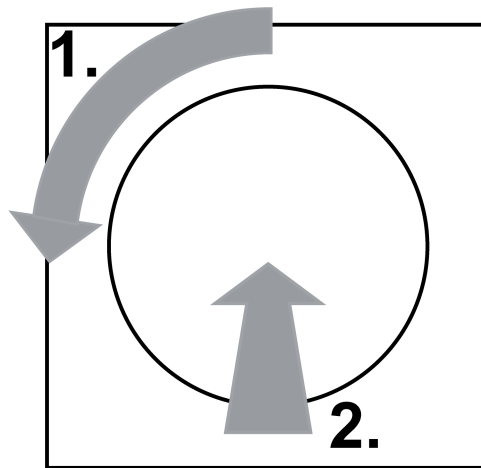

Figure 1: Switch on at minimum brightness
- Turn the setting knob through a quarter turn in a counterclockwise direction, then press the setting knob briefly (figure 1): Light is switched on at minimum brightness.